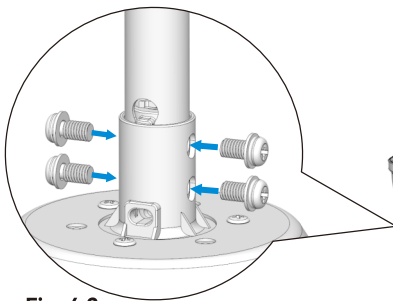

Fig. 4.2
4.2 Install four rod screws (included in the package), securely tightening down to ensure proper connection, as shown in Fig. 4.2.